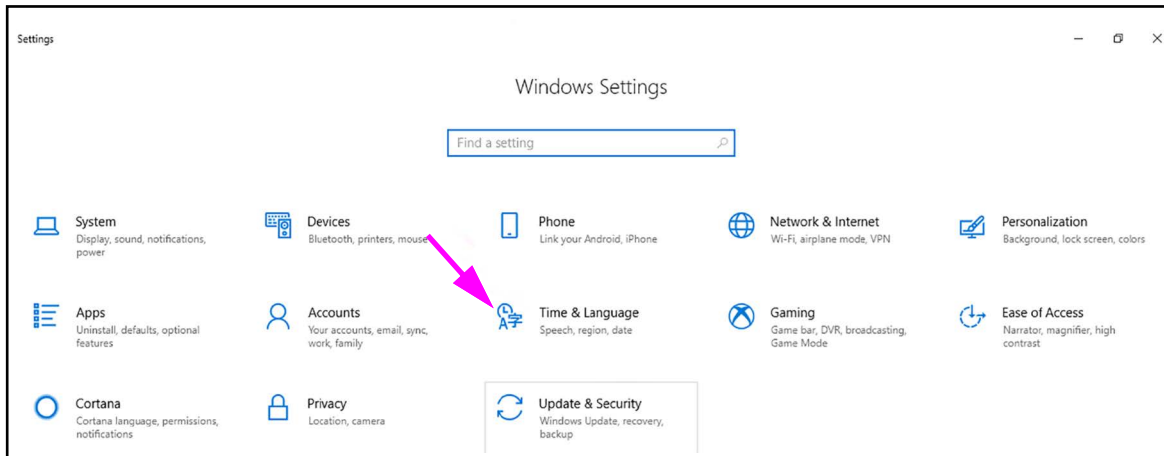

Figure C-1. Windows 10 Settings Window
3. Click on the **Windows Start** icon and select **Settings** from the menu. The Windows Settings window is displayed. See Figure C-1.
4. On the Windows Settings window, click on **Time and Language** (see Figure C-1).